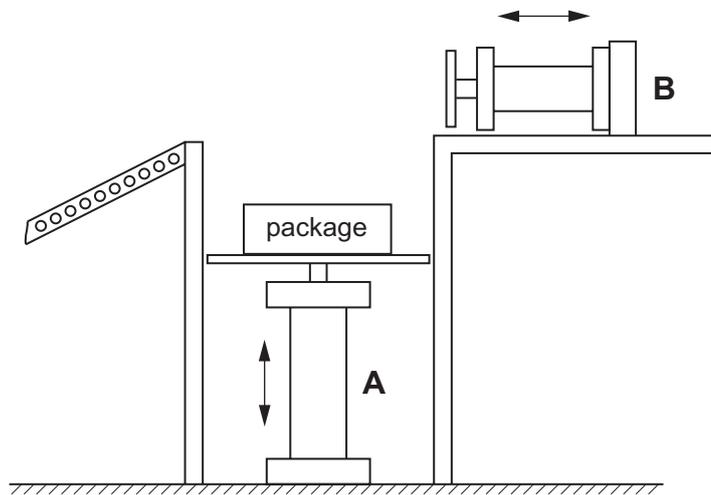
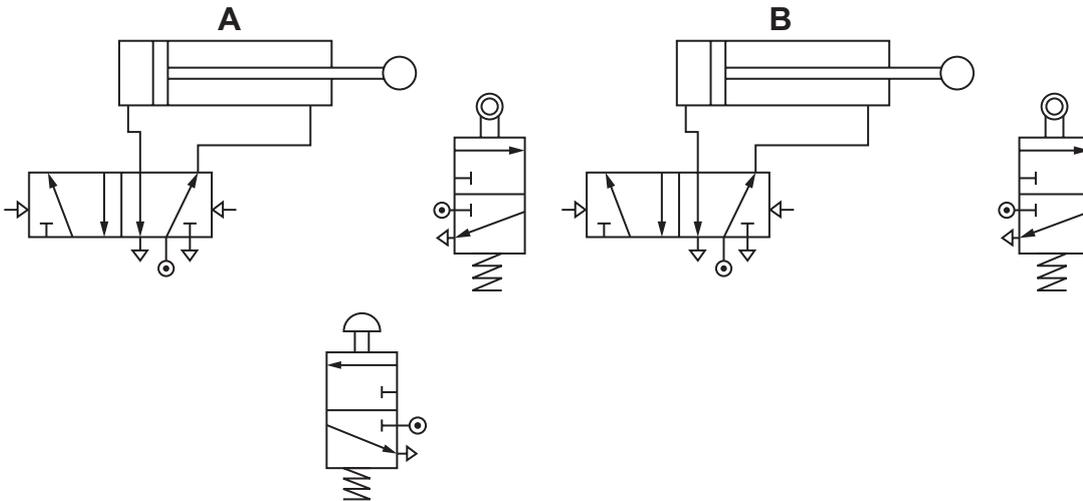

Fig. 3
Fig. 4
- (c) **Fig. 3** shows a lifting device for packages. When a start button is operated for an instant the package is lifted by cylinder **A**. Cylinder **B** then pushes the package onto a gravity-roller conveyor. Both cylinders then return to their initial position.
Part of the pneumatic circuit for Fig. 3 is shown in Fig. 4.
- (i) Complete the pneumatic circuit in Fig. 4 by adding the pipework to give the required sequence.